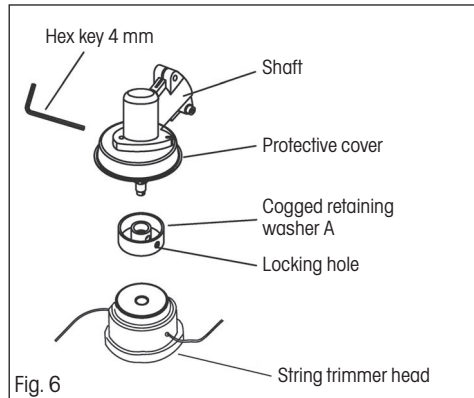

Fig. 6
- ✿ Lock the shaft in place by inserting the hex key (see fig. 6). To achieve this, it is necessary to align the hole in the protective guard with the hole in the shaft and insert the hex key. Align the holes by turning the protective guard.